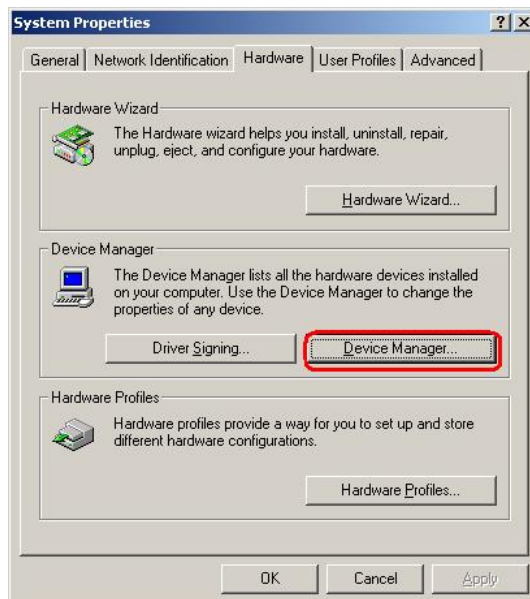

Figure 7-38: Double Click the Device Manager Tab
Step 3: Double click the **Device Manager** tab (Figure 7-38).